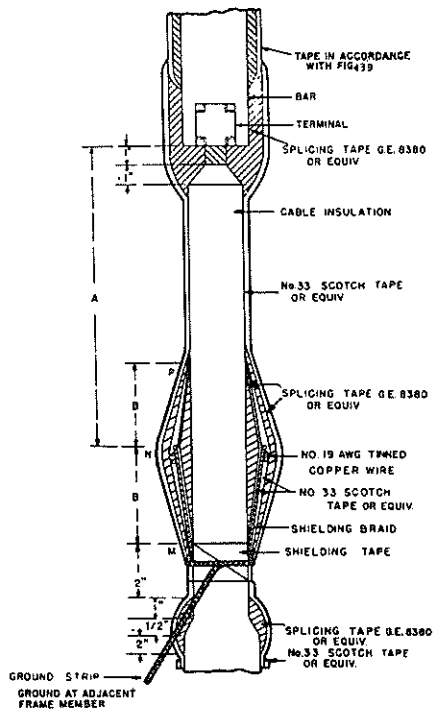

FIG. 28 (B230046C) TERMINATION WITHOUT POTHEAD SINGLE-CONDUCTOR
In all cases carefully follow the cable manufacturer's recommendations for installation of the type of cable being used. A typical example of terminating a shielded cable is shown in Figures 28 and 29.
Installation procedures for a three-conductor lead-sheathed cable with a wiping sleeve cable entrance fitting on the pothead is outlined in GEI-28838H. This is the type most generally used. The factory does not furnish insulating materials for completing stress cones and cable terminations. In all cases carefully follow the cable manufacturer's recommendation for installation of the type cable being used. A suggested procedure for shielded cables is outlined below. Refer to Fig. 28 and 29 for reference.
The factory does not furnish insulating materials for completing the primary cable termination at the cable clamp or for stress cones. In all cases carefully follow the cable manufacturer's recommendation for installation of the type cable being used. A suggested procedure for shielded cables is outlined below. Refer to Fig. 28 and 29 for reference.
6. Taper insulation for one inch as shown. See Fig. 28.
\* For ungrounded neutral use 1.33 times the dimensions in selecting distance A. See Fig. 28 and 29.